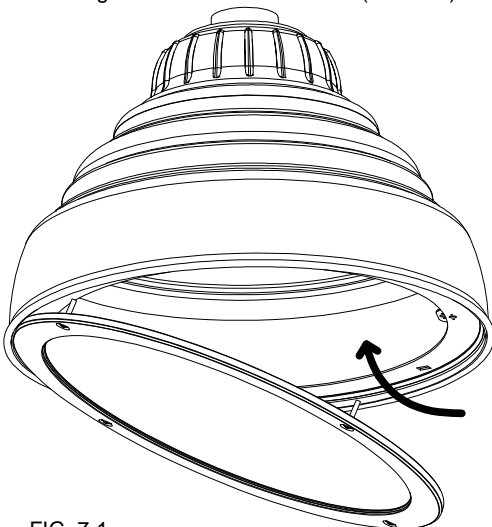

FIG. 7-1
1. Slide slot to reflector hinge and secure light engine to the fixture head with quarter turn fastener . (FIG. 7-1)